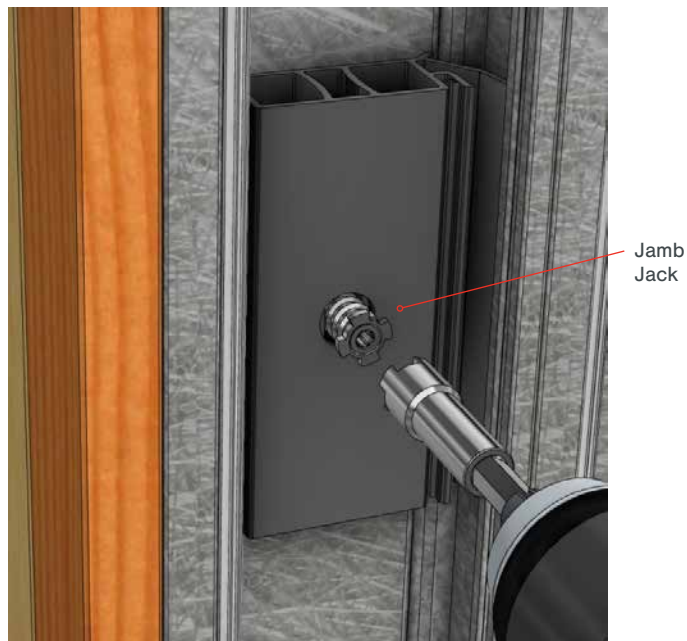

Fig 41
- Use a GRK Top Star Crown Bit (fig. 41), to apply the jamb jacks into the Jamb Inserts.